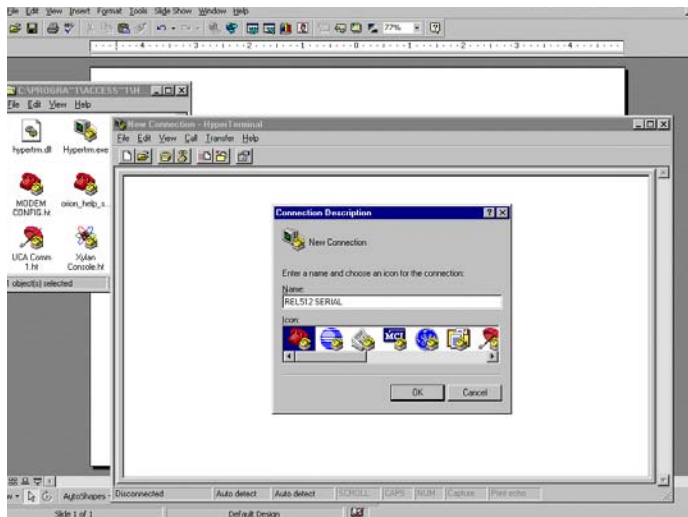

Figure 43 – Hyperterminal Setup Screen
2. Select the icon labeled Hyperterminal.exe The screen illustrated in Figure 43 should be visible. The operator will be prompted for a name as illustrated.